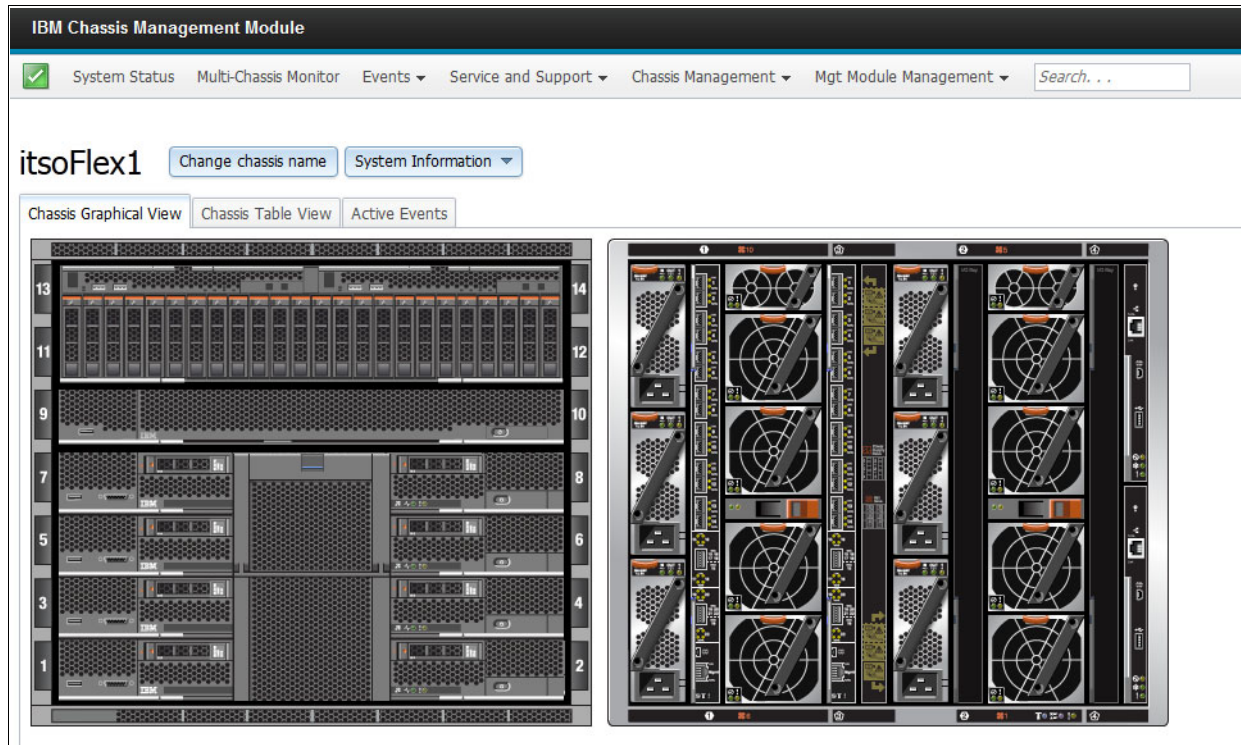

Figure 7-6 CMM initial view: System Status
2. Log in with your user ID and password. The System Status window of the CMM opens with the Chassis tab active, as shown in Figure 7-6. If you don't see the chassis view, click **System Status** from the menu bar at the top of the window.